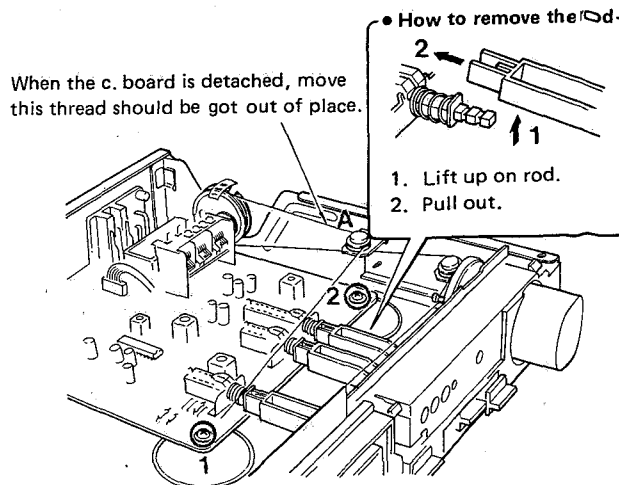

Fig. 4
- a. Apply adhesive tape to the pulley as shown in fig. 4 so that the dial string will not slip from the pulley.
- b. Remove three rods as shown in fig. 4.
- d. Remove screws ① and ② in fig. 4 and turn the tuner c. board upside down, then replace parts.
- \*At this time, it is necessary to detach the string at pulley A as shown in fig. 4.